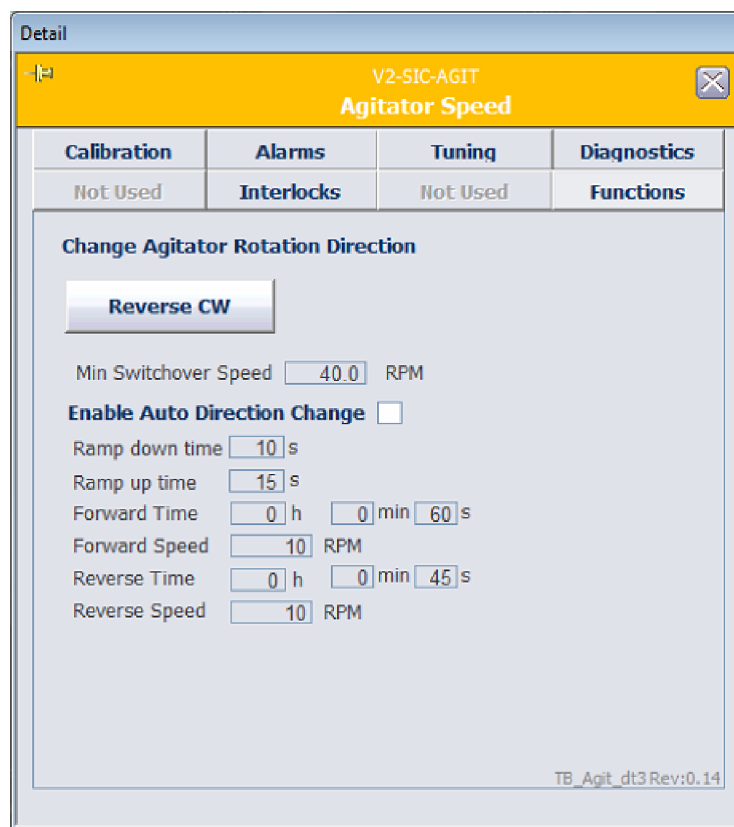

Figure 5.15. Agitator detail window.
1. Open the **Agitator** faceplate and click **Detail** to open the **Detail** window. Then click the **Functions** tab (Figure 5.15).